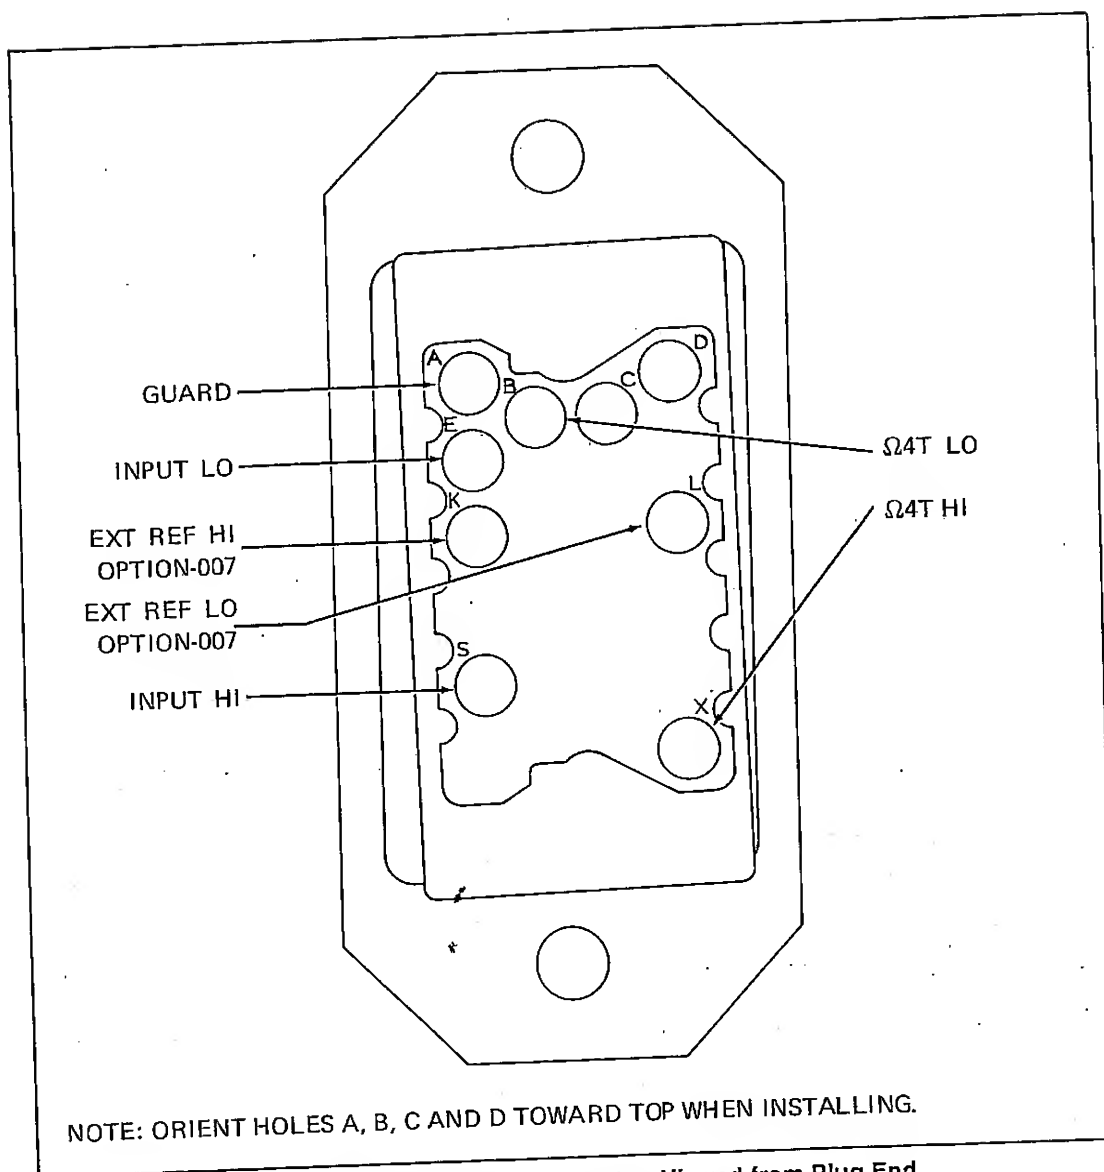

Figure 006-3. Rear Input Connector, Viewed from Plug End
8. Orient the Rear Input connector with the holes marked A, B, C, and D at the top, as shown in the close-up, Figure 006-3. Fasten this connector to the rear panel with two screws, as in Figure 006-1.
006-9. Operation of the Rear Input is identical to that of the front panel inputs, except for the type of connector used. The pin designations are given in Figure 006-3. The plug which mates with the rear-panel-mounted Rear Input connector can be ordered using part number 541797, Hardware Connector Kit, from John Fluke Mfg. Co., Inc. This kit includes a cable connector (part # 369231), and the necessary solder contacts (part # 369298).